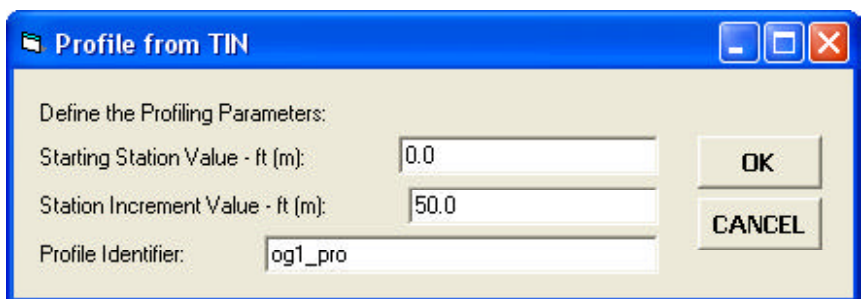

Figure 11
- 4 **Scroll** down in the {CEDRA-Polygon-Tools} menu combo box, and **select** the [Profile from TIN] menu command (see Figure 2) to display the multi-input dialog box of Figure 11.
- If an illegal entry has been made, an error message is displayed identifying the illegal entry. In this case, click at the *OK* button to acknowledge the message and display again the dialog box of Figure 11, make the correction and continue with the work.
- **10** Click on top of the **Source** tab in the TOC area to display the various layers and tables therein, scroll down in the table of contents list, **right-click** at the label of the **name** of the table that was entered in the *Profile Identifier*: data field of Figure 11, and select the **Open** command to display the contents of the table.